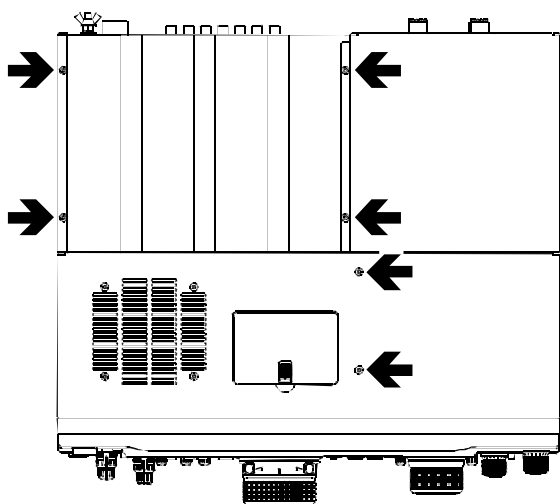

Figure 2
- ❑ Referring to Figure 2, remove the six screws (\blacktriangleright) from the top panel. Pry the top cover open and disconnect the speaker cable from the speaker, then lift off the top and side covers.
- ❑ Referring to Figure 2, remove the six screws (➡) from the top panel. Pry the top cover open and disconnect the speaker cable from the speaker, then lift off the top and side covers.